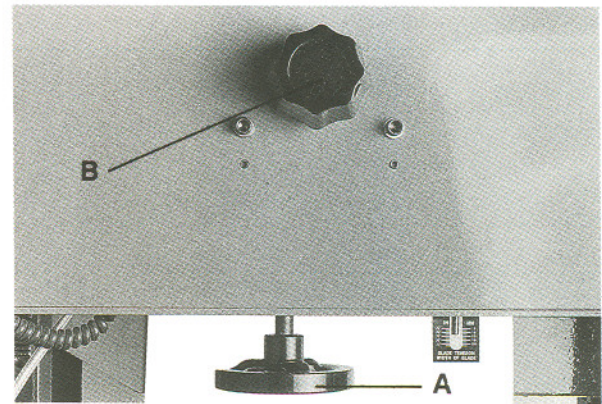

Fig. 6
**Blade Tension Handwheel** (A, Fig. 6) - located on underside of upper frame. Turn clockwise to tension blade; counter-clockwise to release tension on blade.
**Blade Tracking Handwheel** (B Fig. 6) - located at the upper rear of the saw. Turn clockwise to track blade toward front of the blade wheel. Turn counter-clockwise to track blade toward rear of the blade wheel.
3. To tighten blade, turn handwheel (A, Fig. 6) clockwise.